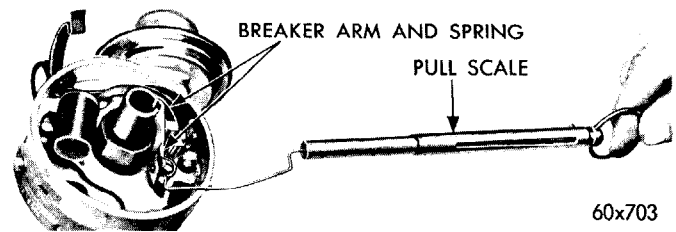

Fig. 15—Testing Breaker Arm Spring Tension (6 Cylinder)
(1) Hook a spring scale MTU-36 on the breaker arm and pull in a straight line at right angle to the point surfaces, as shown in Figure 15. Take a reading as the points start to separate. Spring tension should be 17 to 21.5 ounces. If not, loosen the screw which holds the end of the point spring and slide the end of the spring in or out as necessary. **DO NOT** pull condenser strap tight against spring as this will cause the strap to fatigue and break.
(2) Retighten screw and recheck spring tension.